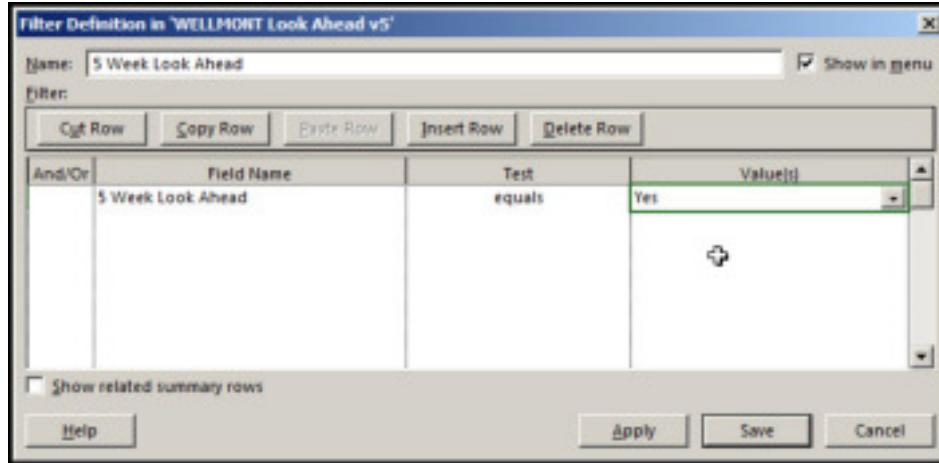

Figure 12
- B. Name the filter '3 Week Look Ahead', Figure 12.